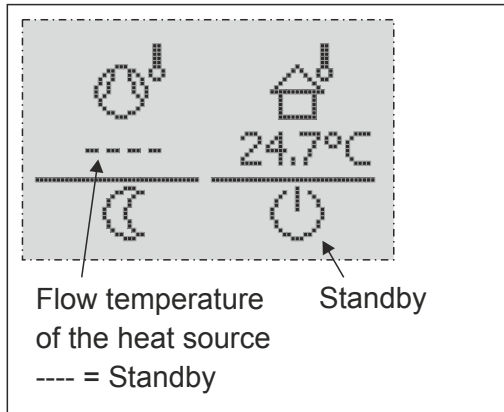

Figure 2-2
**i** **ATTENTION!** If standby was set (Figure 2-2), you have to wait until the symbol "heating" and the flow temperature of the heat source are shown (Figure 2-3).